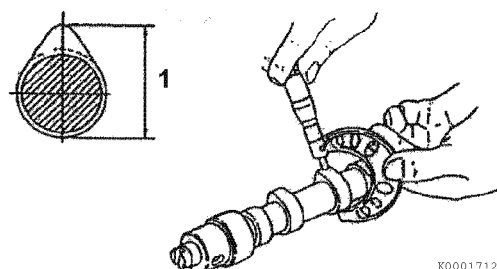

Figure 6-80
3. Measure the height of each lobe (**Figure 6-80, (1)**). Record the measurements. *See Camshaft on page 6-6 for specifications.*